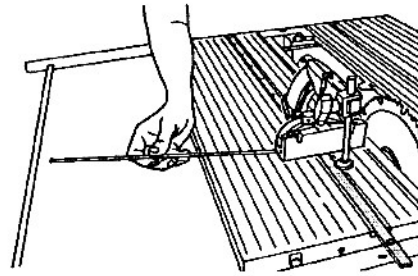

Fig. B-17
18. Move the miter gauge so its face is even with the center of the blade. Insert a 1/4" dowel— or the long rod from the Miter Gauge Stop Rod accessory (available from Shopsmith, Part No. 505629)— through the miter gauge face, as shown in Fig. B-17.